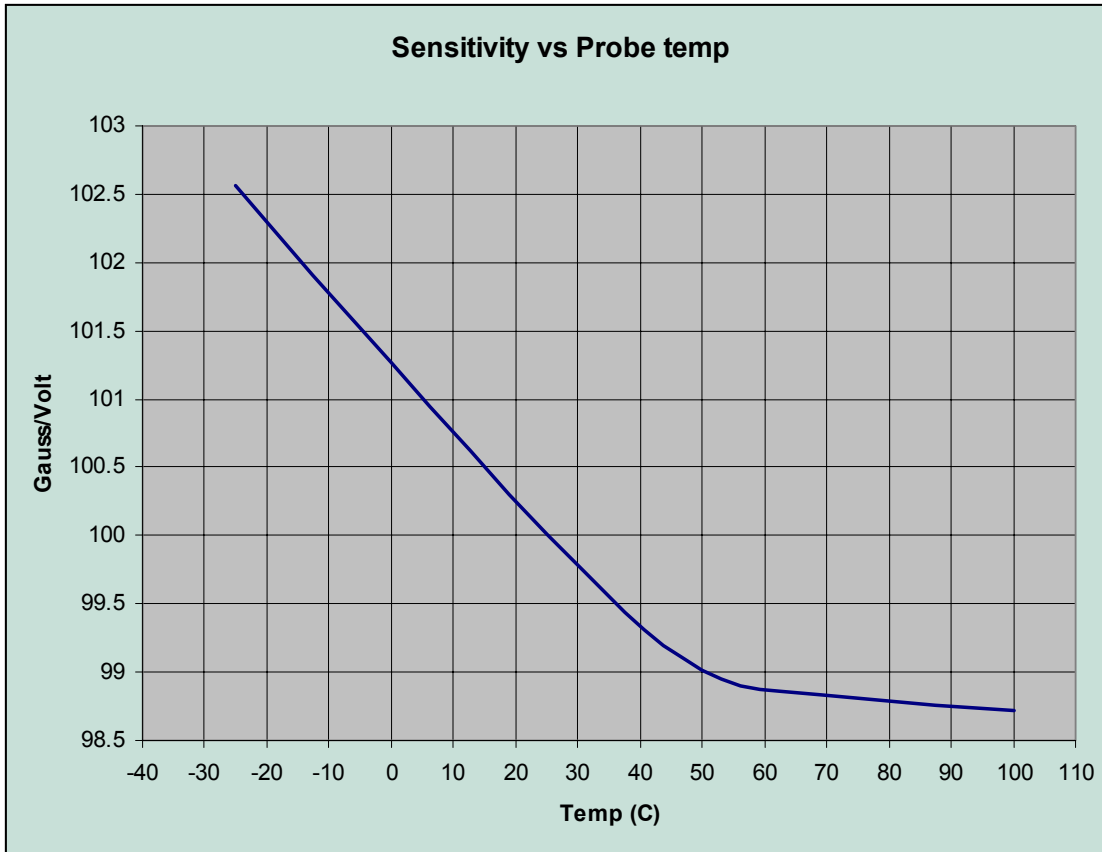

Figure 3-1 Sensitivity Vs Temperature (Exaggerated scale)
- 6) If desired, measure the starting room temperature and the ending room temperature and average it. Using the average room temperature enter the table in Figure 3-1 to determine the temperature adjusted conversion.